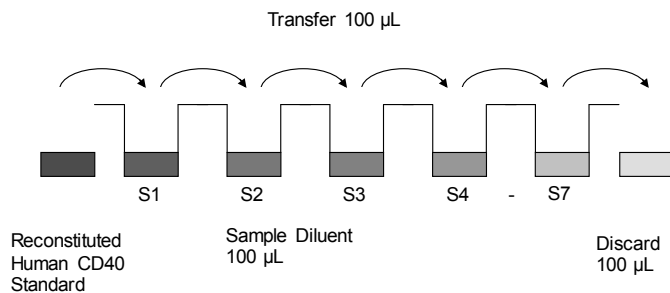

Fig. 7 Dilute standards - microwell plate
- Standard dilution on the microwell plate (Alternatively the standard dilution can be prepared in tubes - see "External standard dilution" on page 3): Add 100 μL of Sample Diluent in duplicate to all standard wells. Pipette 100 μL of prepared standard (see Preparation of Standard "Human CD40 standard" on page 3, concentration = 1000 pg/mL) in duplicate into well A1 and A2 (see Table 1). Mix the contents of wells A1 and A2 by repeated aspiration and ejection (concentration of standard 1, S1 = 500 pg/mL), and transfer 100 μL to wells B1 and B2, respectively (see Figure 7). Take care not to scratch the inner surface of the microwells. Continue this procedure 5 times, creating two rows of human CD40 standard dilutions ranging from 500.0 to 7.8 pg/mL . Discard 100 μL of the contents from the last microwells (G1, G2) used.